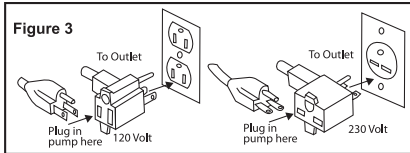

Figure 3
6. Plug the piggyback plug into a grounded outlet, then plug the pump into the piggyback plug. Refer to Figure 3.